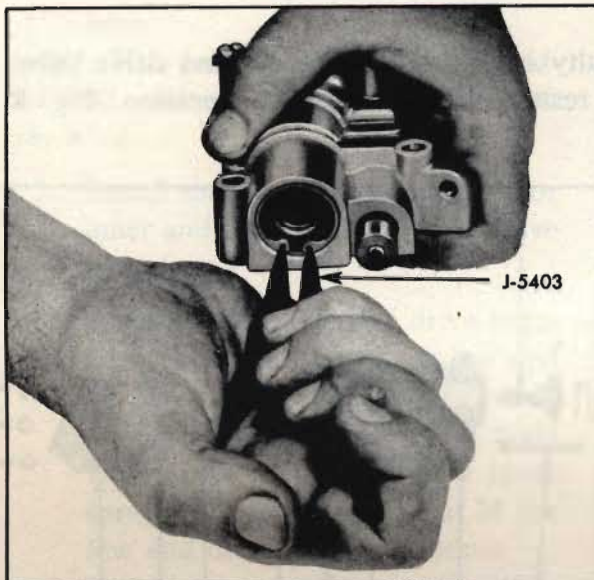

Fig. 9. Removing low and drive valve body snap ring
5. Using a Tru-arc pliers, remove the low and drive regulator cap retainer ring (Fig. 9). Remove the low and drive regulator valve cap, sleeve and valve, low and drive valve inner and outer springs and the low and drive valve.